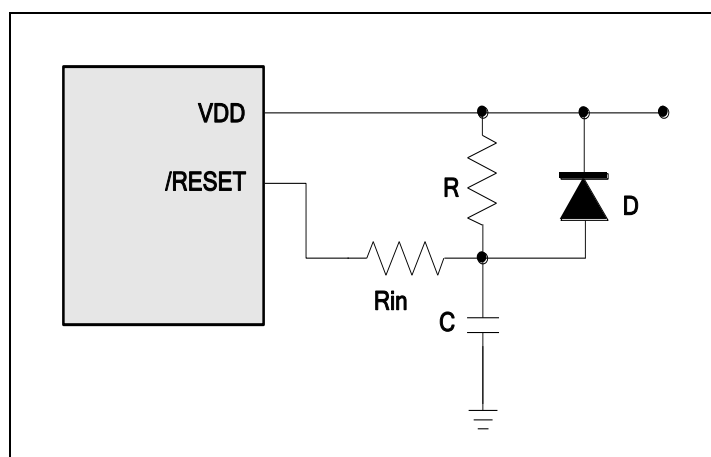

Figure 6-15 External Power-Up Reset Circuit
The circuit diagram in Figure 6-15 implements an external RC to generate the reset pulse. The pulse width (time constant) should be kept long enough for V_{DD} to reach minimum operational voltage. Apply this circuit when the power supply has slow rise time. Since the current leakage from the /RESET pin is about $\pm 5 \mu\text{A}$, it is recommended that R should not be greater than 40K Ω in order for the /RESET pin voltage to remain at below 0.2V. The diode (D) functions as a short circuit at the instant of power down. The capacitor (C) will discharge rapidly and fully. The current-limited resistor (R_{in}) will prevent high current or ESD (electrostatic discharge) from flowing into /RESET pin.